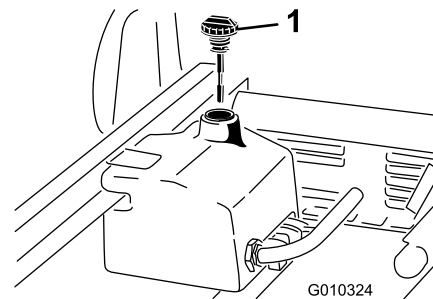

Figure 72
4. Clean the area around the filler neck and the cap of the hydraulic tank (Figure 72).
6. Remove the dipstick (Figure 72) from the filler neck and wipe it with a clean rag.